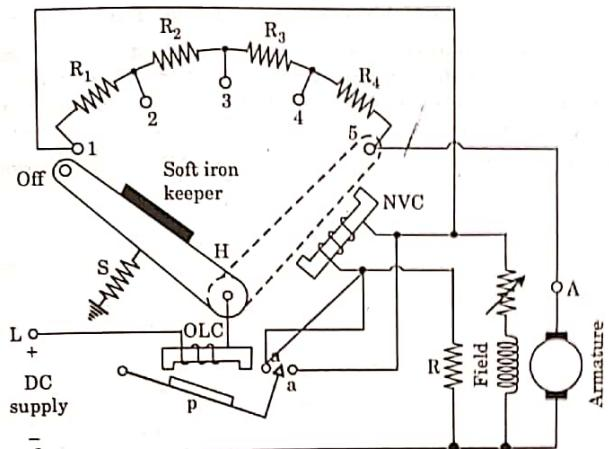

Fig. 3.5.1.
- The schematic connection diagram of four-point starter is shown in Fig. 3.5.1.